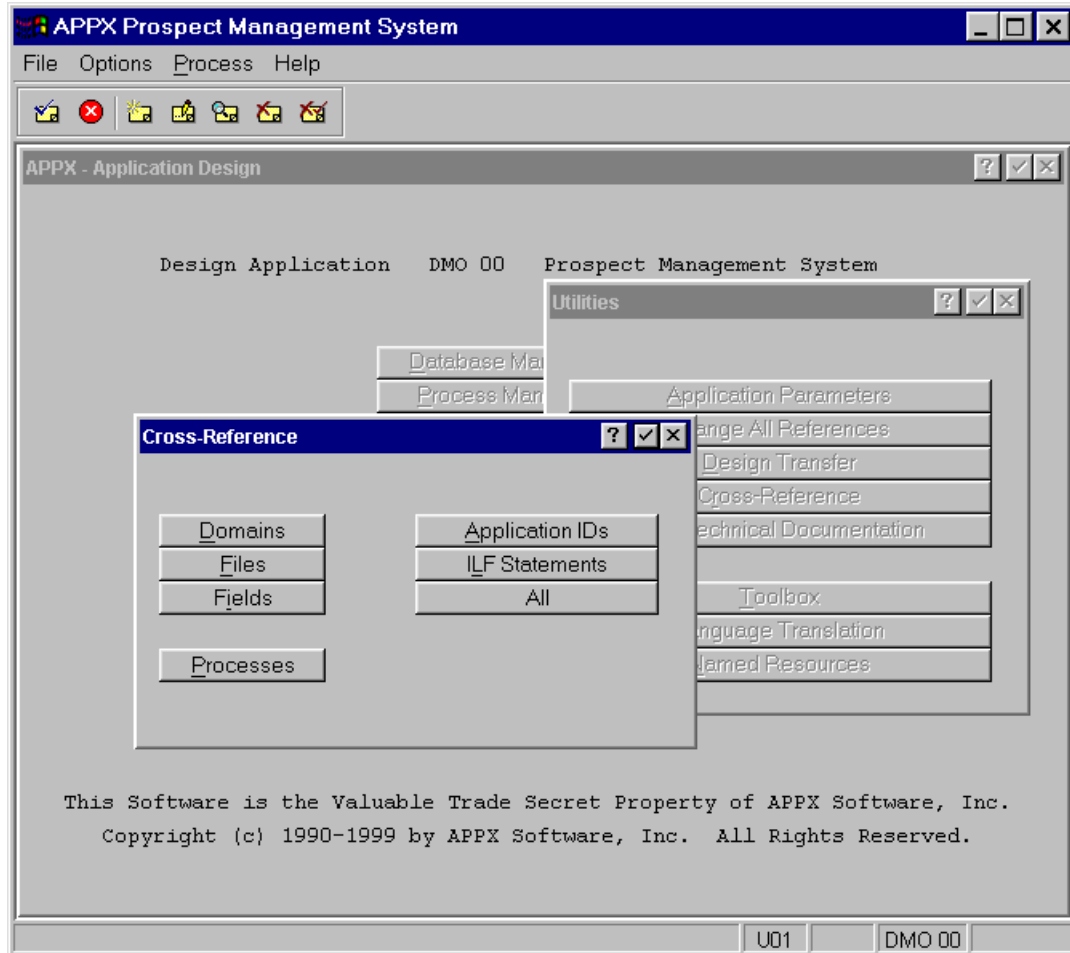

Figure E1.6 – Field Context
- From the **Cross-Reference** menu, select the **Domains** option since you want to find all references to the **PROSPECT NO** domain (*Figure E1.6*).